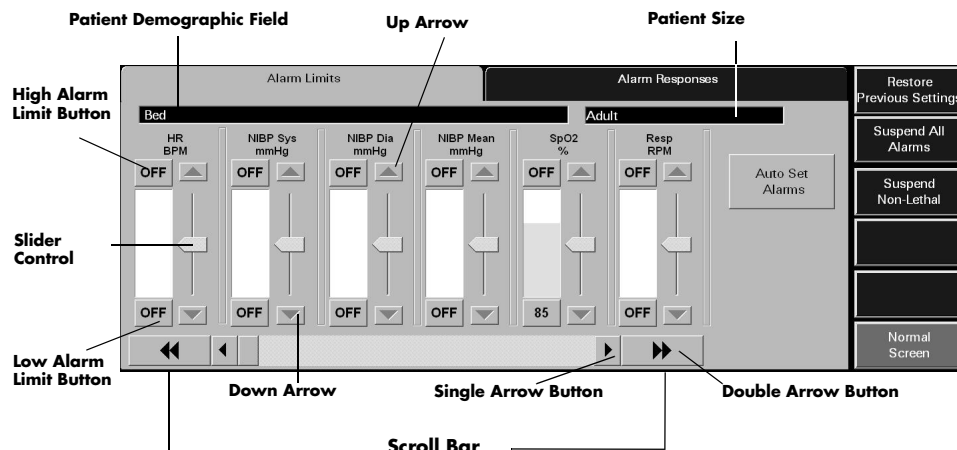

FIGURE 6-2 Alarm Limits Tab
3. The **Alarm Limits** (shown in FIGURE 6-2) and the **Alarm Responses** (shown in FIGURE 6-6) tabs are shown after the correct password is entered. For additional information about alarm limits and alarm responses, refer to “Alarm Limits Tab (Patient)” on page 6-4 and “Alarm Responses Tab (Patient)” on page 6-12.
The patient **Alarm Limits** tab (shown in FIGURE 6-2) adjusts patient alarm limit settings. The alarm limits available will change according to the type of monitoring device assigned to the selected patient tile. The fields discussed in this section may not apply to all users. For additional information regarding alarm limit settings, refer to "Alarms and Events" on page 13-1.